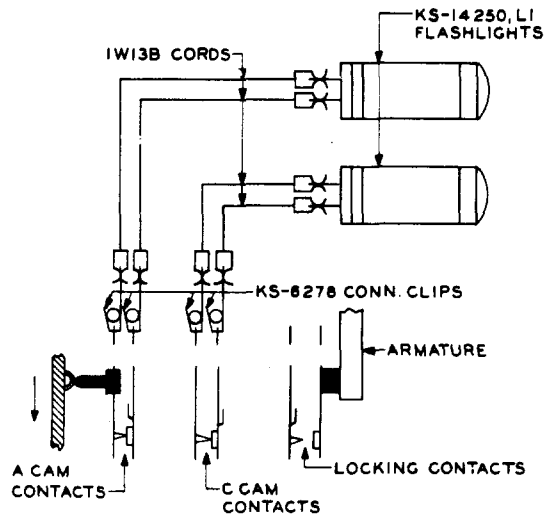

Fig. 20 - Connections for Checking Timing Interval
- (1) Preparation: Connect one end of each of the 1W13B cords equipped with the 360-type tool to the terminals of the bottom cap of the KS-14250, LL flashlight. Use the flashlights as specified below in making the tests. Closure of contacts will be indicated by lighting the flashlight and opening of contacts by extinguishing the flashlight.
(2) Initial Registration - Minimum Timing Interval: Connect the flashlights to the proper spring terminals at the rear of the timer, as shown in Fig. 20. Both flashlights should light. Operate the timer magnet by connecting ground to the right winding terminal connection at the top of the timer. Begin timing with the KS-3008 stop watch when the "A" cam contacts break. After an interval of a few seconds less than 5 minutes, the "C" cam contacts will break and then release. Cease timing at the reclosure of the "C" cam contacts.